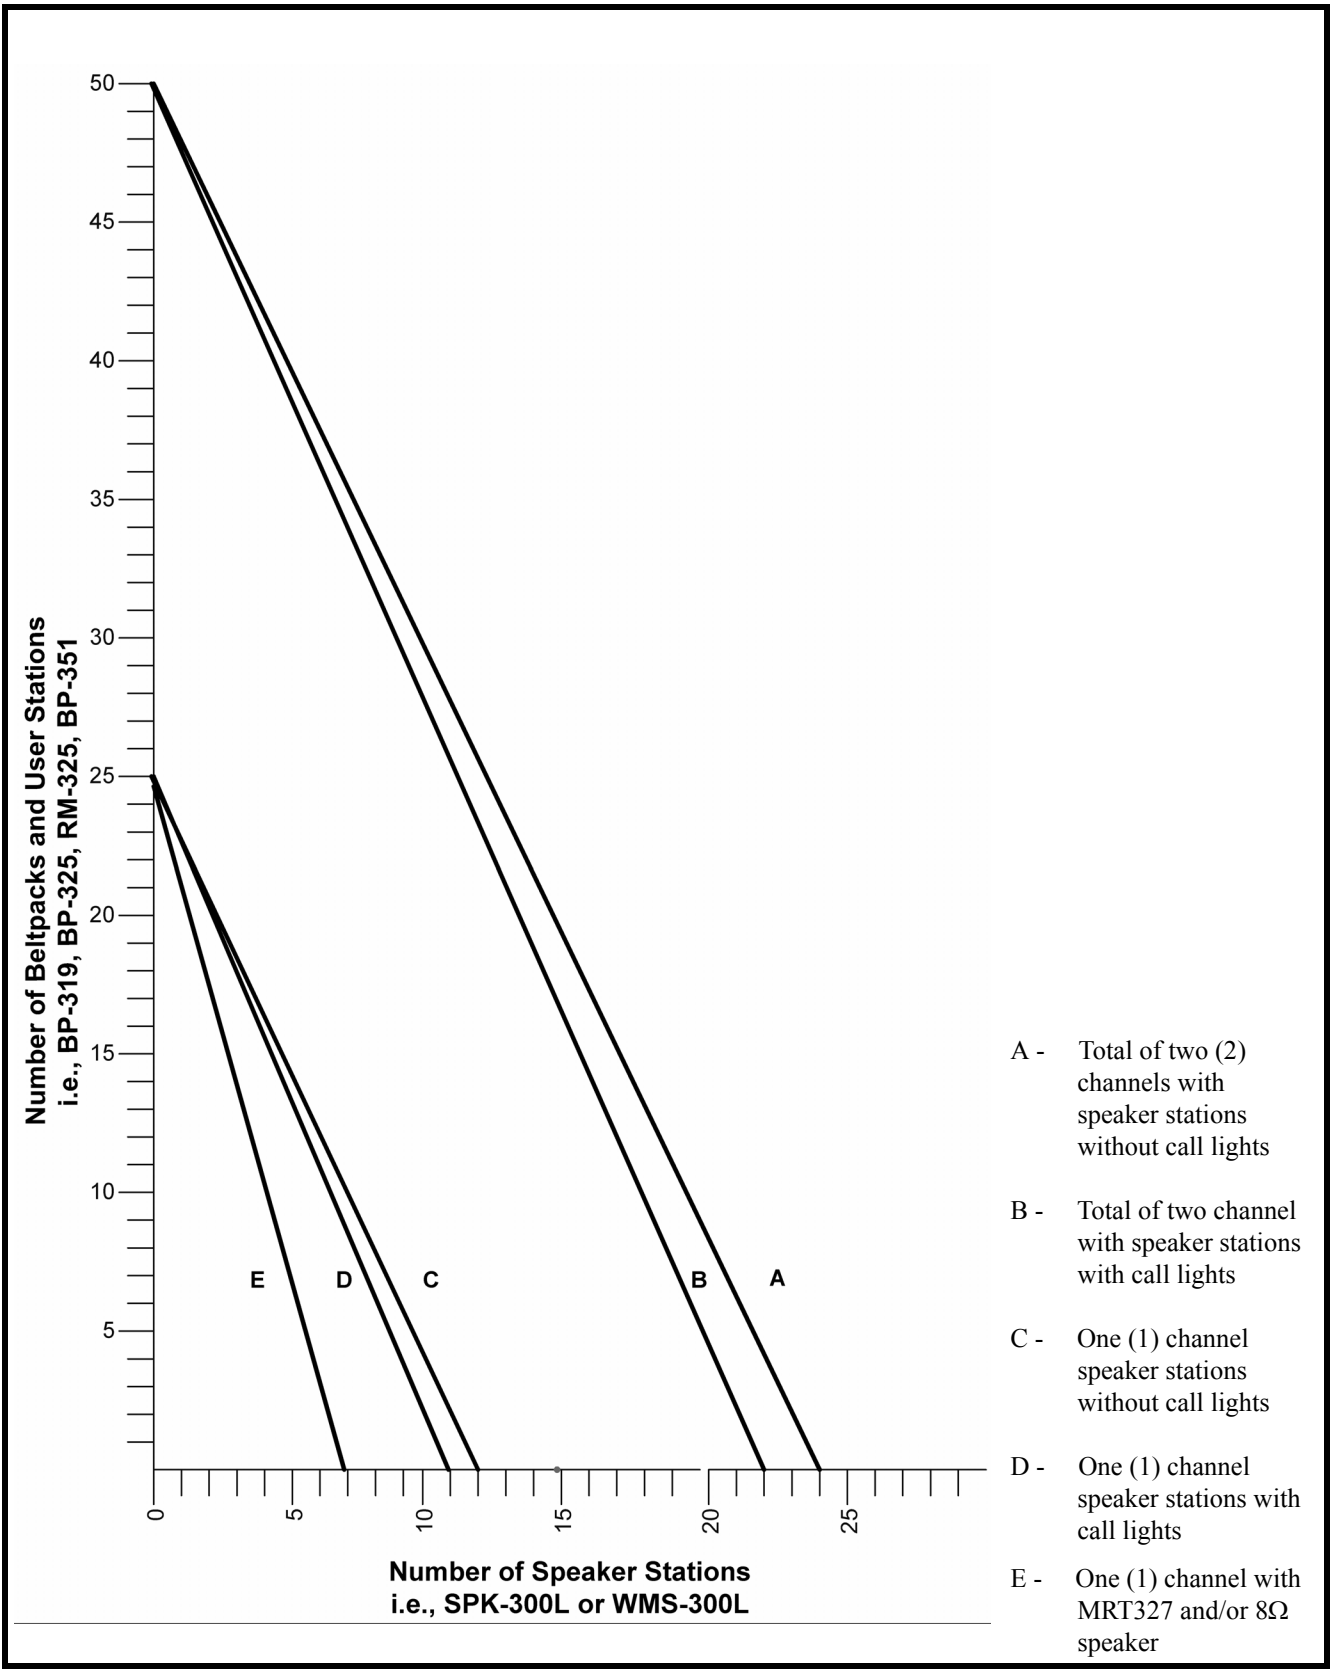

FIGURE 3. Capacity Graph
**NOTE:** When connecting intercom stations, do not exceed the power supply capacity, either for channel 1, channel 2 or both. Power supply capacity is graphically illustrated in Figure 3 on page 9.